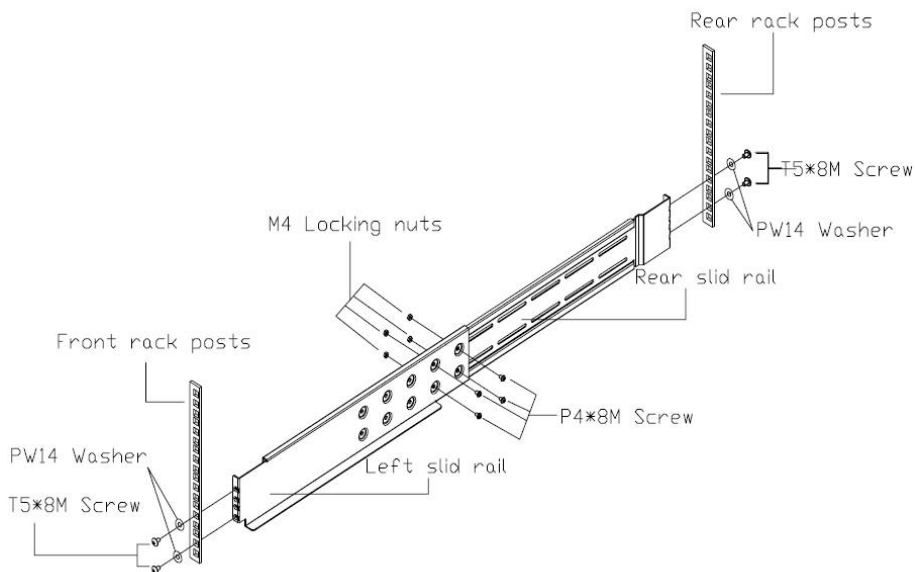

Figure 1.
3. Use T5\*8M screws and PW14 washer to install the left slide on Front and rear Posts of Rack as Figure 1.